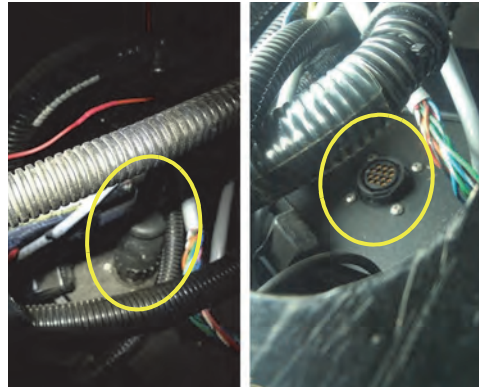

Figure 2b: Boom switch connection - before and after disconnection
- b. Locate the machine's 14-pin cab harness cable connection to the boom switch bulkhead connector in the cabling compartment. Disconnect the harness cable from the bulkhead connector (Figure 2b left and right images).